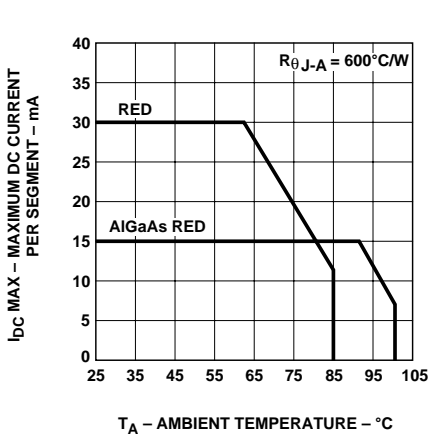

Figure 3. Maximum Allowable DC Current vs. Ambient Temperature. $T_{JMAX} = 100^{\circ}\text{C}$ for Red and $T_{JMAX} = 110^{\circ}\text{C}$ for AlGaAs Red.
- Derate maximum DC current for Red above $T_A = 62^\circ\text{C}$ at 0.79 mA/ $^\circ\text{C}$, and AlGaAs Red above $T_A = 91^\circ\text{C}$ at 0.8 mA/ $^\circ\text{C}$. See Figure 3.